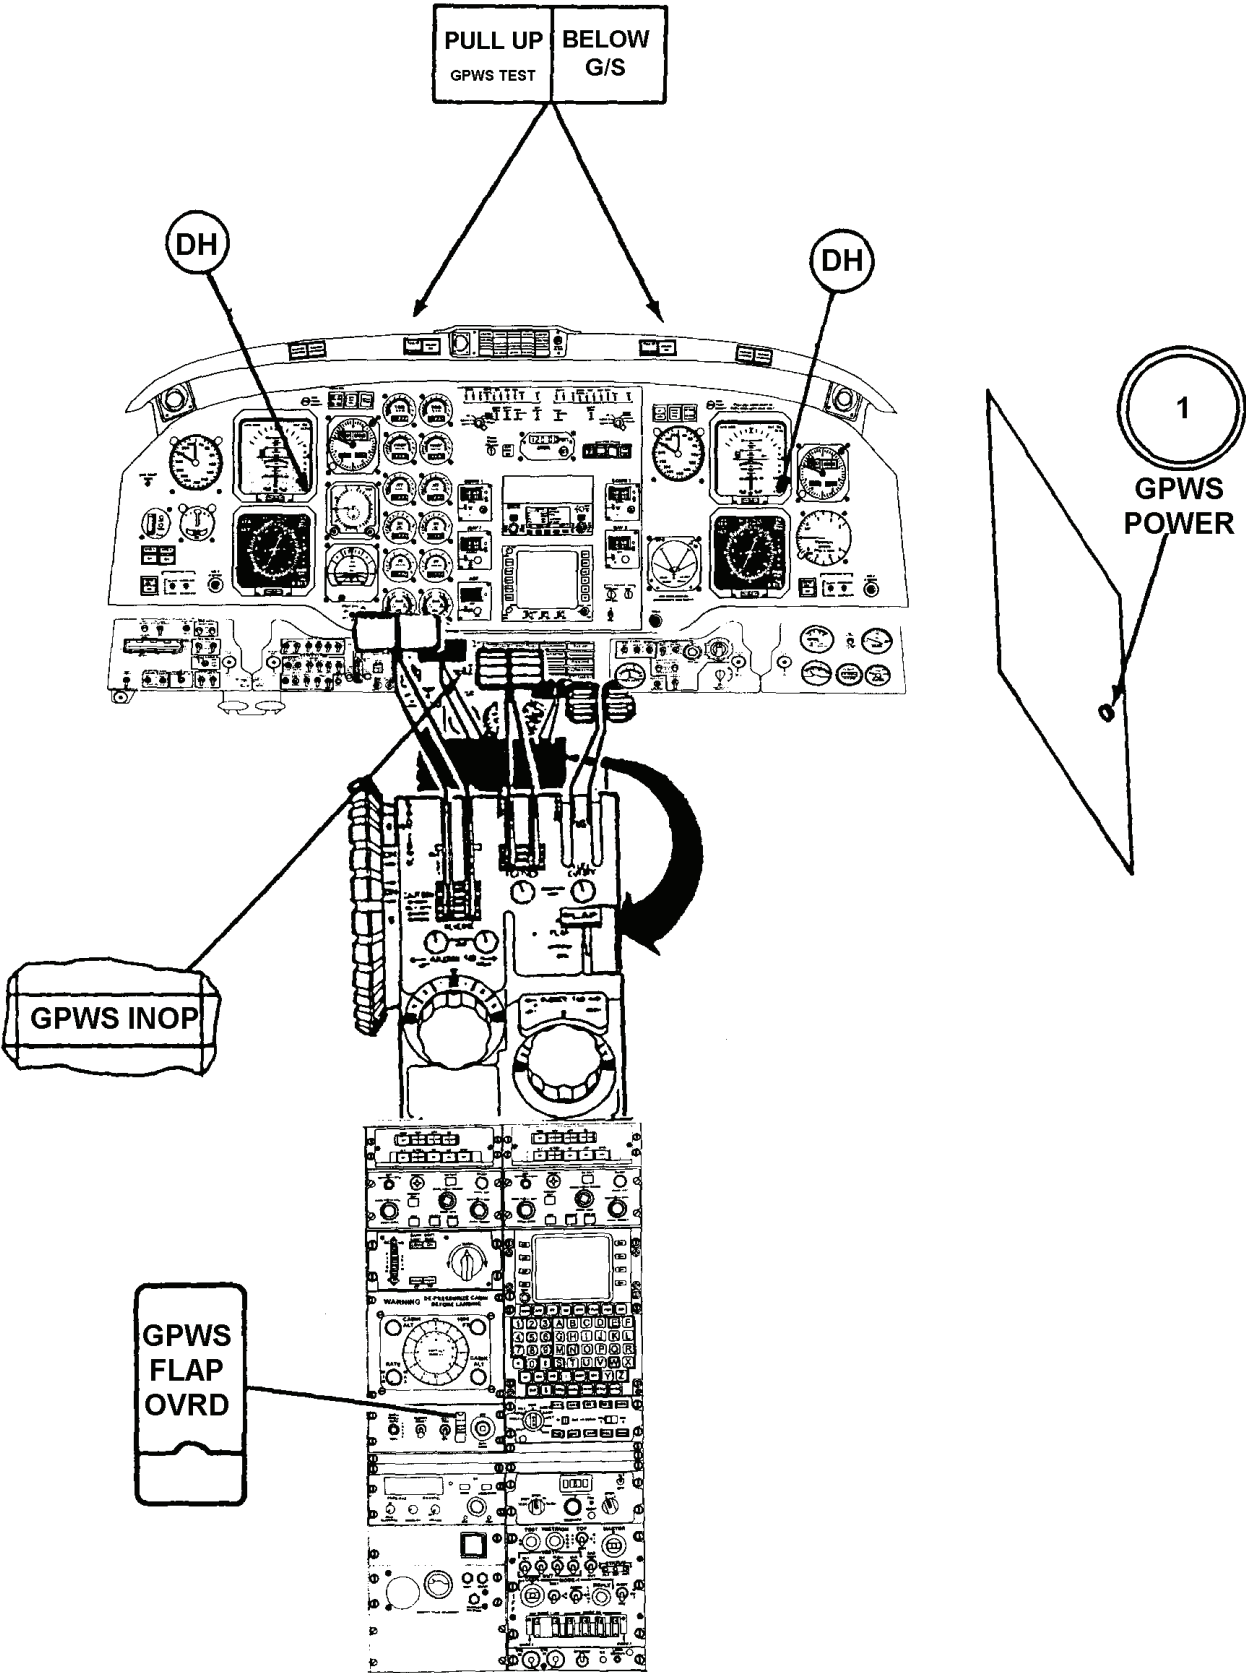

Figure 3B-160. Ground Collision Avoidance System Control and Indicators
a. Description. The Ground Collision Avoidance System (GCAS) is provided to aid the flight crew in terrain avoidance. Figure 3B-160 shows the ground collision avoidance system controls and indicators.